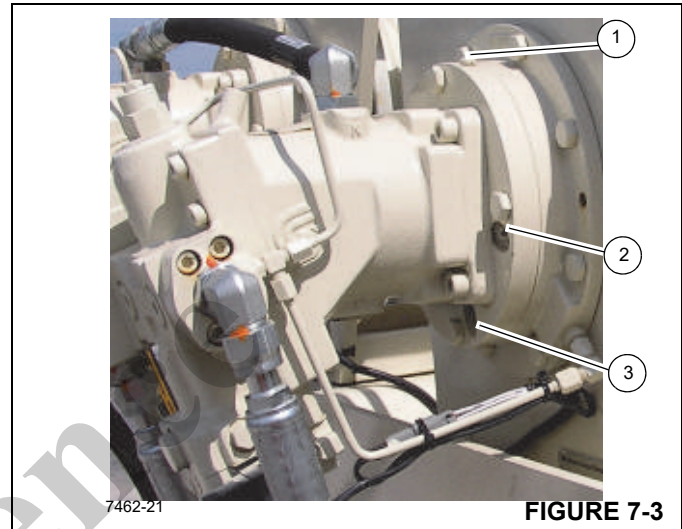

FIGURE 7-3
To check the hoist brake oil, remove the inspection plug (2, Figure 7-3) and visually inspect the oil level. The oil should be level with the bottom of the inspection hole. If more oil is needed, add through the vent/fill (1) plug hole until oil is at the bottom level of the inspection hole.
- Remove the drain plug (3), (Figure 7-3.) the inspection plug (2) and the vent plug (1).
- Reinstall drain plug (3) and add oil at the brake oil vent hole (1) until oil is at the bottom level of the inspection hole (2). See (Table 7-2). The hoist brake fill capacity is 0.23 liter (.25 quart).
- Install the inspection plug (2) and the oil vent and fill plug (1).